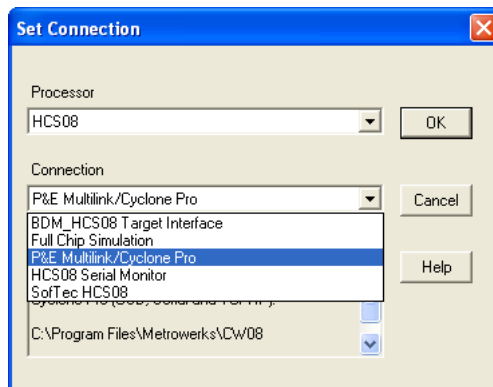

Figure 7-27: HCS08 P&E Multilink/Cyclone Pro Connection Setting
1. Choose the P&E Multilink/Cyclone Pro option from the set connection dialog: See **Figure 7-27**.